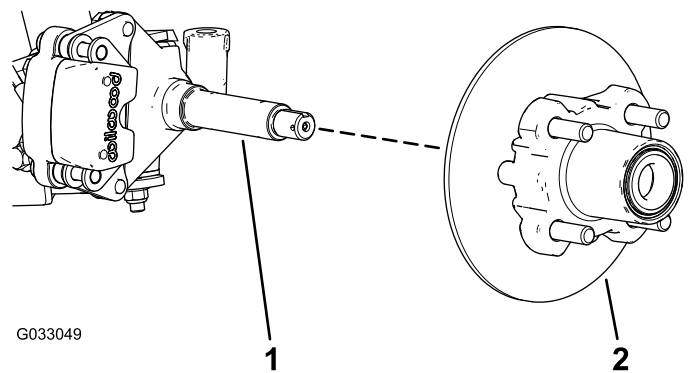
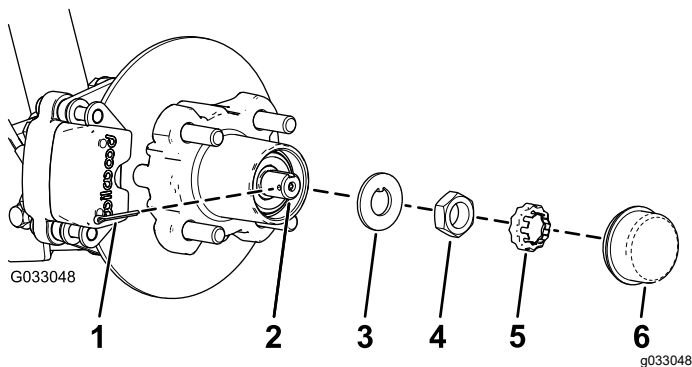

Figure 28
Figure 27
4. Remove the dust cap from the hub (Figure 27).
5. Remove the cotter pin and nut retainer from the spindle and spindle nut (Figure 27).
6. Remove the spindle nut from the spindle, and separate the hub and rotor assembly from the spindle (Figure 27 and Figure 28).